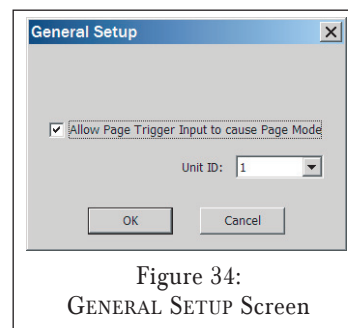

Figure 34:
4. Open the DEVICE menu and select GENERAL SETUP. The GENERAL SETUP screen (Figure 34) will appear.